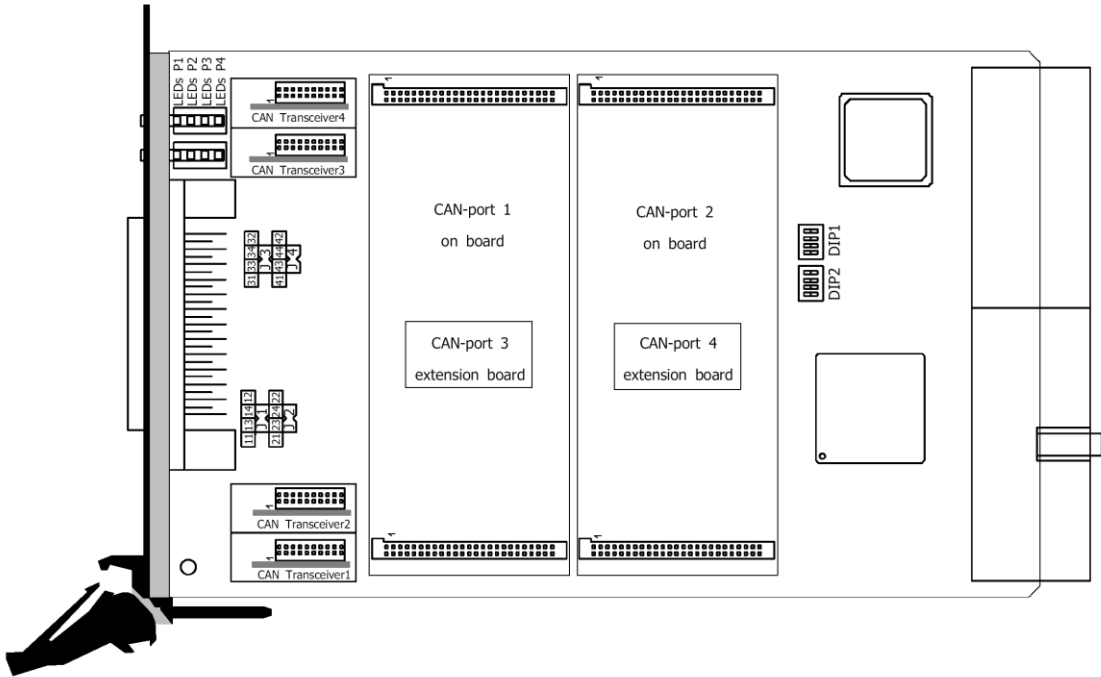
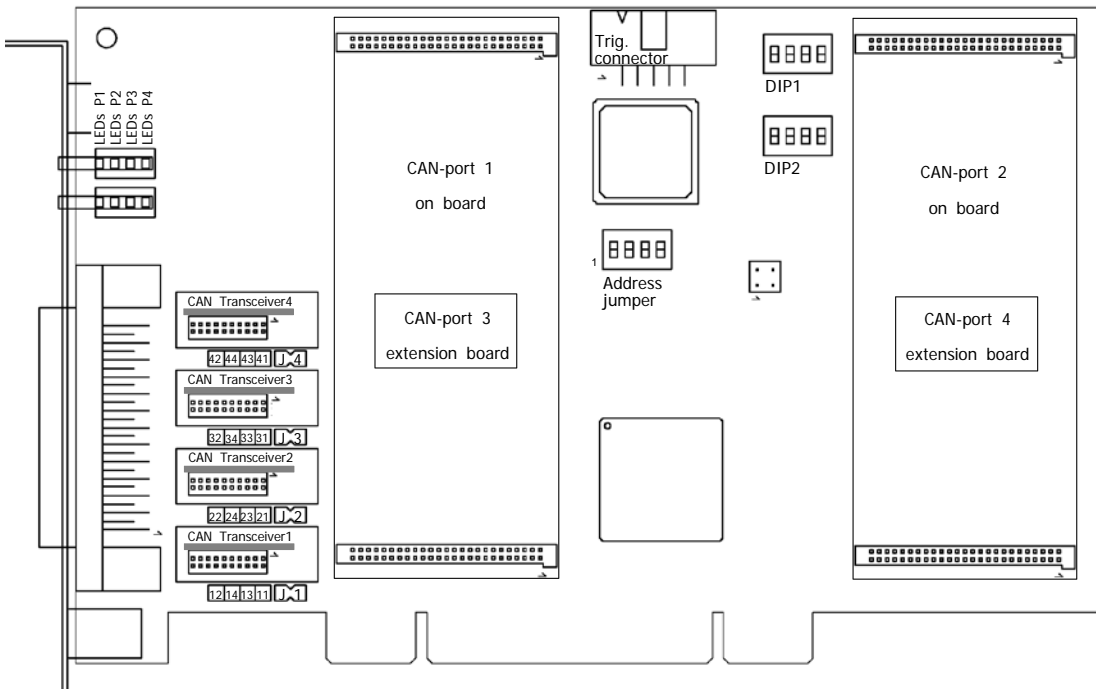

Figure 2-4: PXI 3052 Communication board – Component side (schematically)
Figure 2-5: PCI 3052 Communication board – Component side (schematically)
The PCI 3052 communication board does not have a PXI interface. To exchange trigger signals with other GOEPEL electronic PCI boards despite of that, an additional plug connector is on this board with two lines configurable as input or output (ref. Trig.connector in Figure 2-5).
**PCI 3052:** PCI racks do not have an own geographical slot addressing. There is a separate address jumper field (Address jumper in Figure 2-5) for clear identification of the board (analogously to "geographical addressing" of the PXI specification) in a system with several PCI 3052 boards. You can select up to 16 addressing variants by this. The corresponding binary value (0..15) set with the jumpers can be read out by the delivered software.
These resistors can be deactivated by removing the J1..J4 jumpers. Then the resistors can be replaced by inserting wired resistors (to be soldered!) of the desired value at the positions RP11, 12 .. RP41, 42 (see Figure 2-4 and Figure 2-5).
Figure 2-4 and Figure 2-5 show the component side of the boards schematically. The positions of the optional extension boards (Aufsatzboard) and the transceiver modules can be seen on this illustration as well as the positions of the J1..J4 jumpers for activating/ deactivating the terminating resistors. A plugged-in jumper means that the 120 Ohms terminating resistor is active.
The configuration elements of Figure 2-4 and Figure 2-5 are described in the following table: